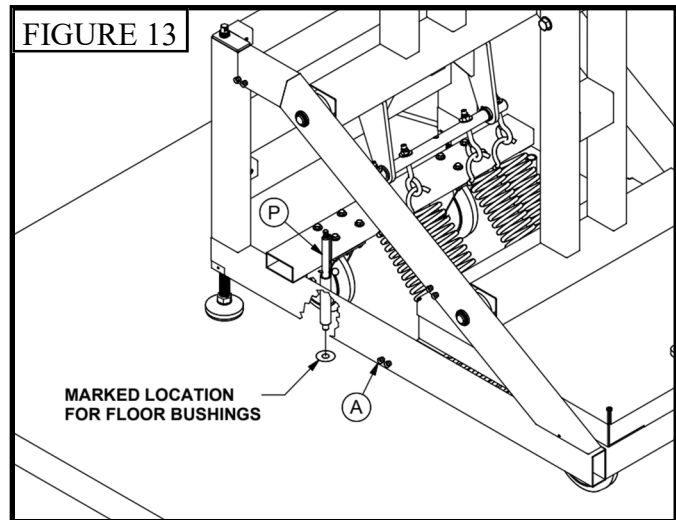

FIGURE 13
22. Move the *Portable Base* (A) to the desired location for use and lower the *Locator Pins* (P) to mark the appropriate placement for the *Floor Bushings* (R). See Figure 13.